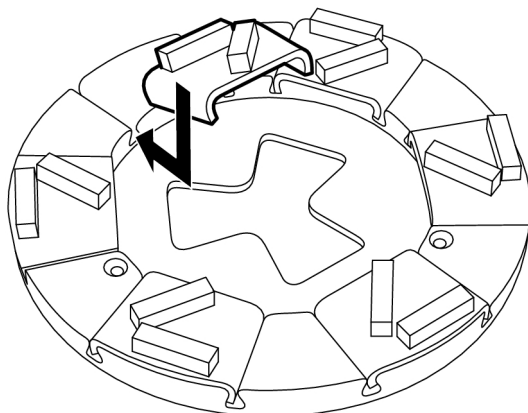

Figure 4-11. Fitting grinding tools
1. Slide the grinding tool diagonally, from above, down into the appropriate guide slot on the tool holder, see Figure 4-11, page 22. Then push the tool fully into the guide slot.
2. Slide the grinding tool diagonally, from above, down into the appropriate guide slot on the tool holder, see Figure 4-11, page 22. Then push the tool fully into the guide slot.
3. Attach the appropriate tool to the machine, see Figure 4-11, page 22